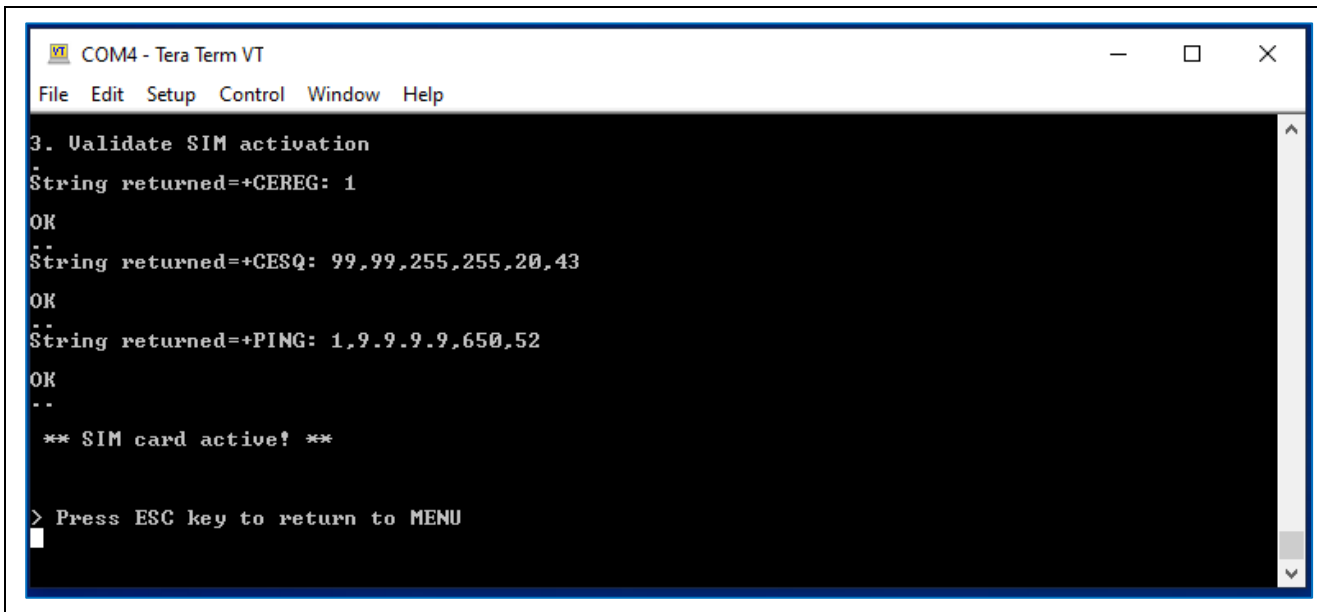

Figure 11. Validating SIM Activation – SIM Card Active
10. Ensure the SIM card is inserted in the RYZ014A PMOD. Follow **Running the RYZ014A PMOD example project** section step 8 by using **Menu 3 Validate SIM activation** to verify that the SIM card is activated. The SIM card should be activated on the Truphone SIM Activation platform after 15 minutes and can be validated on the Tera Term terminal as shown in Figure 11. The time for the SIM card to be activated by Truphone can vary depending on their system demand. In most cases, if PING Response fails, wait a few more minutes and repeat **Menu 3 Validate SIM activation**.